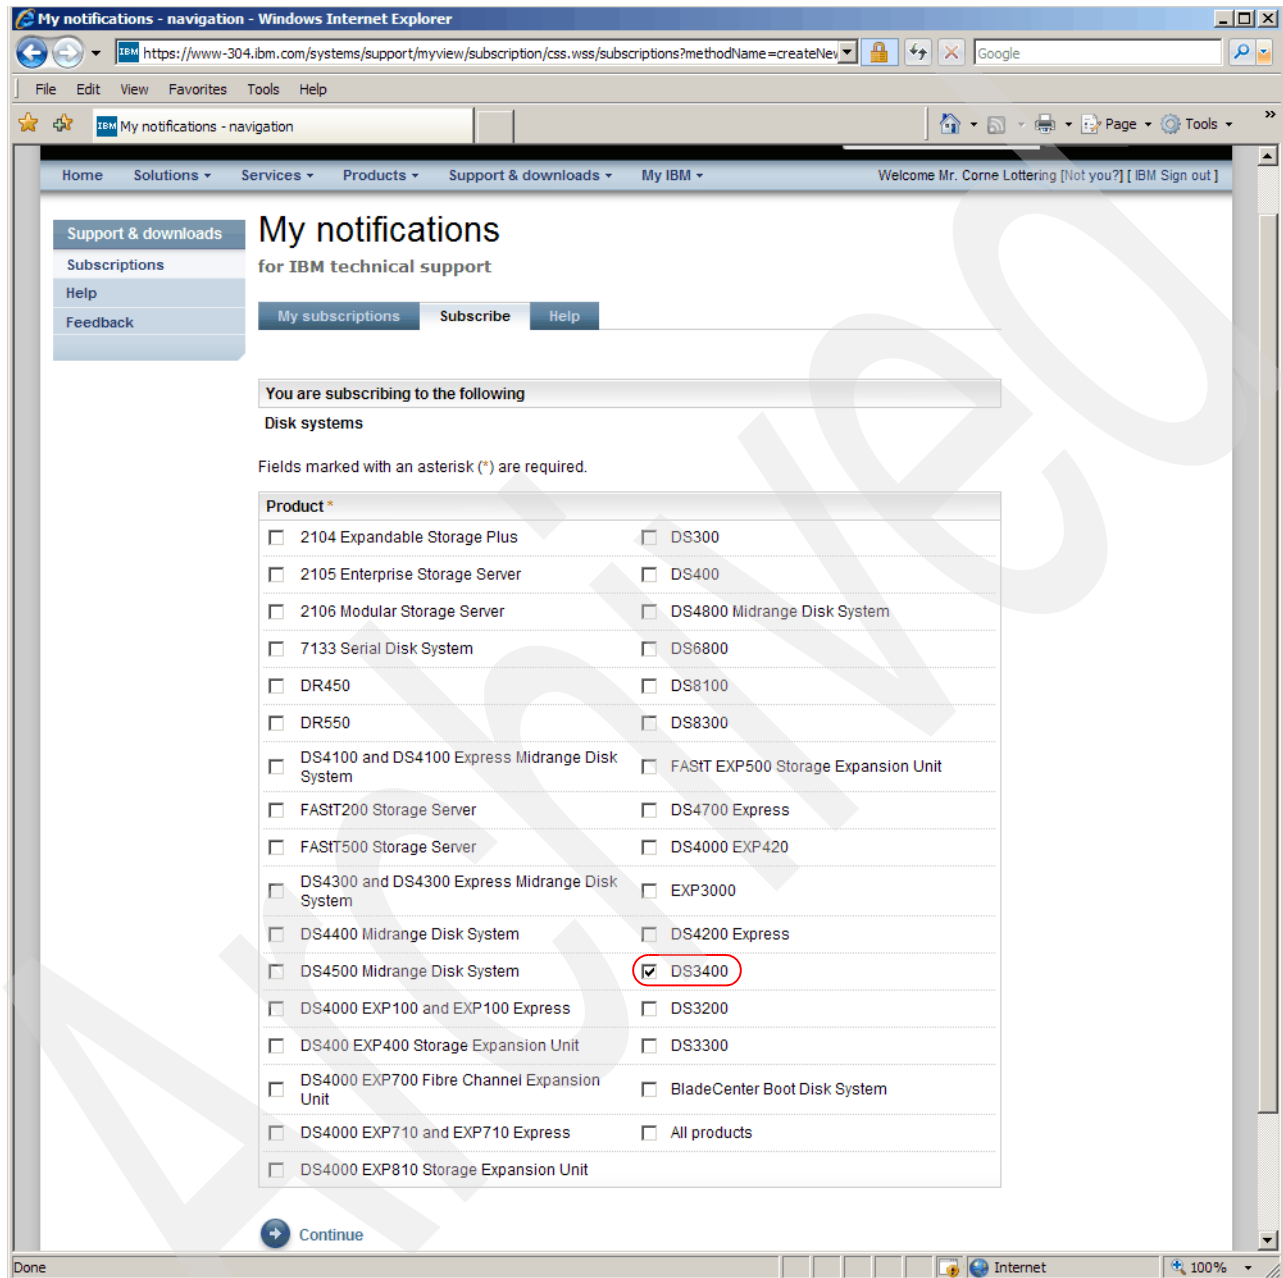

Figure B-10 IBM My notifications - Product notification selection
4. A window appears, as shown in Figure B-10, listing the Disk Storage products that are available for notifications. In our example, we put a tick in the **DS3400** check box to allow us to receive notifications on the DS3400 System Storage subsystem product. Click **Continue** to proceed.